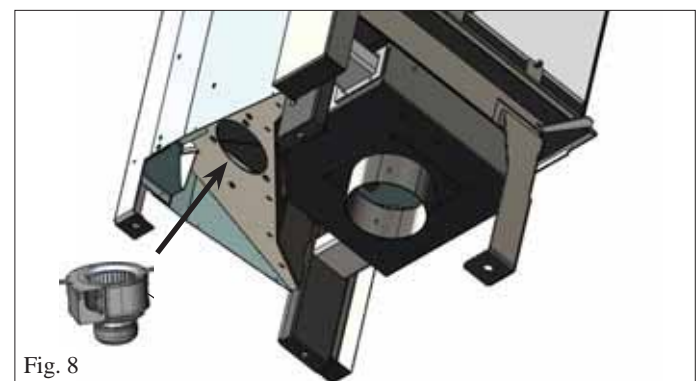

Fig. 8
- Attach the fan to the plate under the fireplace (Fig. 8) with the screws provided